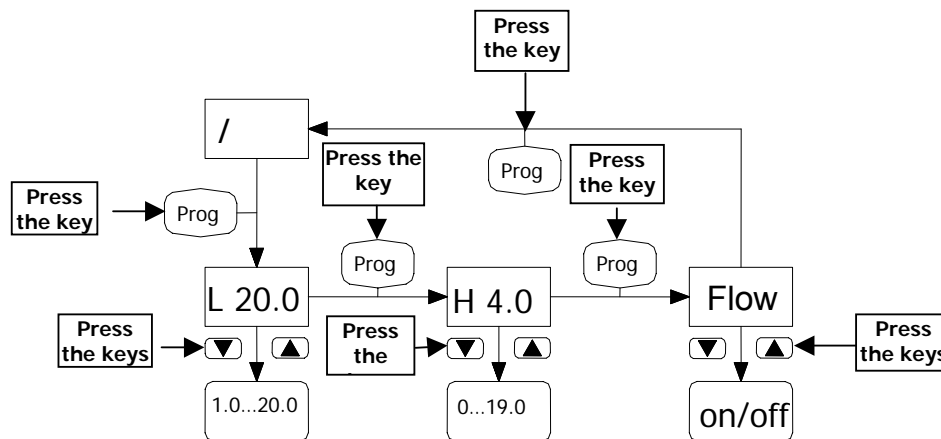

Fig. 28: 20..4/0 Inverse Current Mode Menu
- Selecting the Lower Limit (see Fig. 28)
– **Selecting the Lower Limit (see Fig. 28)**
– **Flow Control Function (see Fig. 28)**